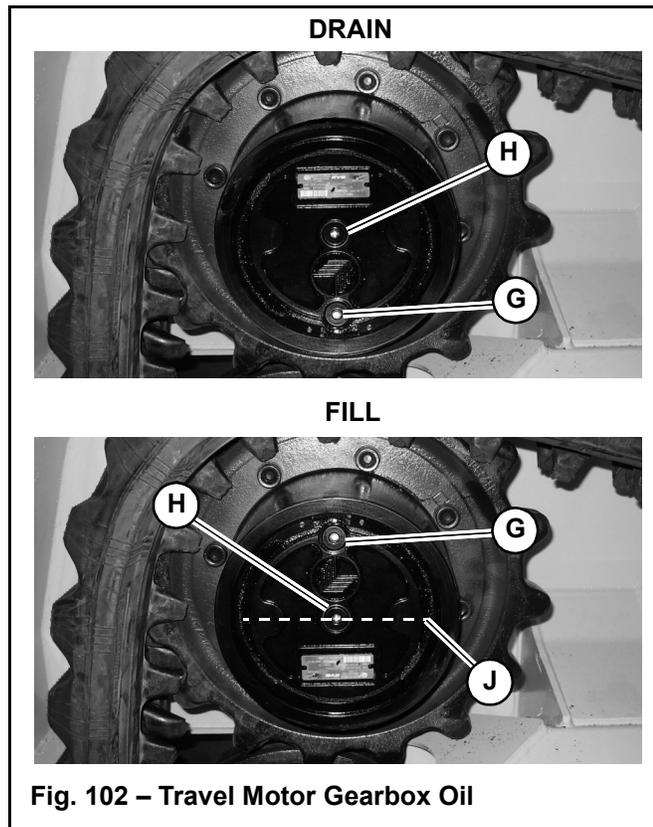

Fig. 102 – Travel Motor Gearbox Oil
1. Park the machine with travel motor gearbox drain/fill hole plug (G, Fig. 102) at the bottom.
3. Position a waste oil collection container with a 1 quart/liter (± 0.10 quarts/liters) underneath the drain/fill hole plug (G).
4. Remove breather hole plug (H).
5. Remove drain/fill hole plug (G) and allow the oil to drain completely.
6. Rotate the travel motor gearbox 180° so the drain/fill hole plug (G, Fig. 102) opening is at the top.
7. Fill the travel motor gearbox with the correct grade and type oil. Fill to level (J, Fig. 102).